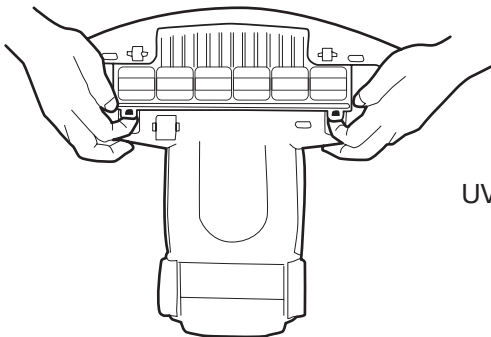

Figure 6
1. Turn off the vacuum prior to cleaning the bulb. Detach the protective grill on the bottom of the base unit by gently pulling up on the two tabs at the back of the covering. (See Figure 6.) Set the cover aside and wait for bulb to cool.